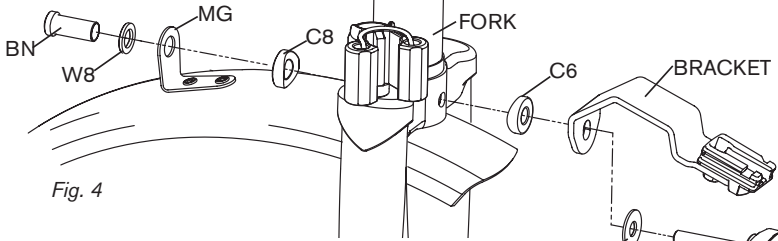

Fig. 4
- The bracket should be fitted between the fork crown and front brake (fig. 4), if the bike has a front reflector or dynamo light bracket fitted it will need to be removed, along with the die cast washer (fig. 2) if used
- Disassemble the parts by undoing the barrel-nut (BN) behind the fork crown, along with the washer (W8)
- Pull the caliper forward and remove the concave washers (C6) reflector bracket and washer (W)
- Reassemble with the light bracket in the order as shown (fig. 4) with concave washer C6 (6mm hole) and C8(8mm hole) fitted in the correct orientation (fig. 5) on both sides of the fork crown
- Check that the mudguard (MG), the light bracket and the brake caliper are aligned parallel to the front wheel and that the brake pads do not rub on the braking surface of the wheel when not applied
- The mounting hole in the bracket is slotted to allow some up/down adjustment. Check that the bracket is not in contact with the brake (B) and that the rear of the lamp does not touch the latch, if a front carrier block is fitted to the bike